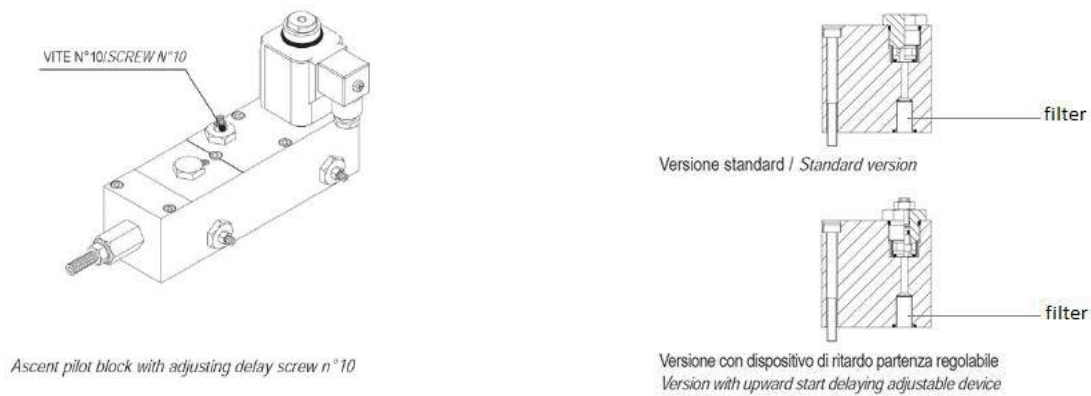

Figure 46 – Filter cleaning of EVS line
- In particular, in case the putting under pressure and the start upwards result to be difficult, clean the filter EVS of the up travel block, shown in Figure 46, removing first the cap and then unscrewing the filter with a screwdriver.